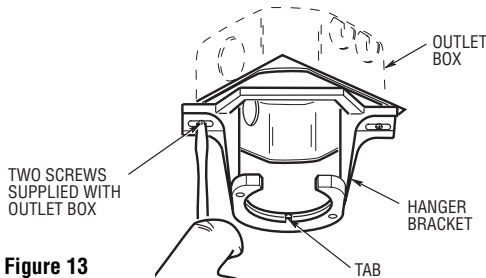
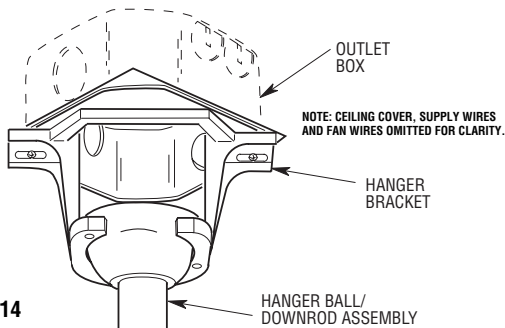

Figure 13
Figure 14
- 1. Securely attach the hanger bracket to the outlet box using the two screws supplied with the outlet box (Figure 13).
- 2. Carefully lift the fan and seat the hanger ball/downrod assembly on the hanger bracket that was just attached to the outlet box (Figure 14). Be sure the groove in the ball is lined up with tab on the hanger bracket (Figure 13).